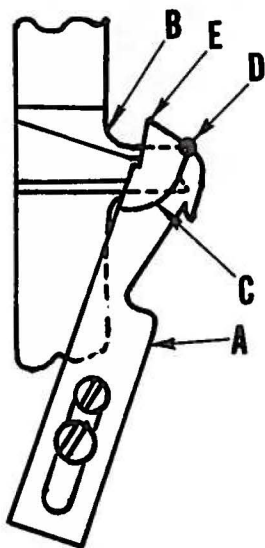
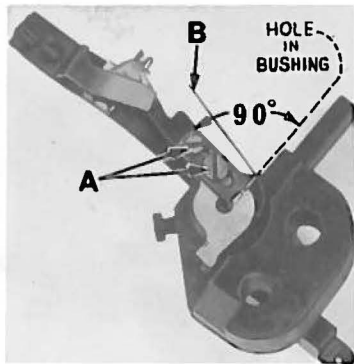
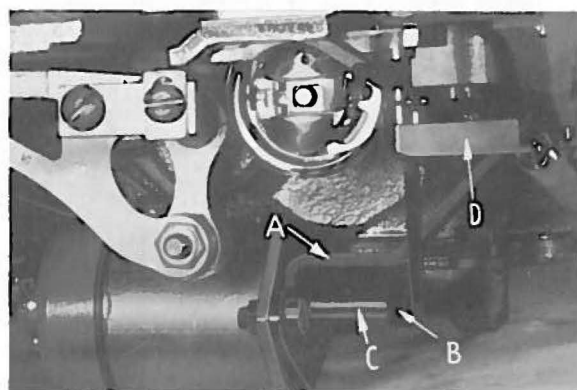
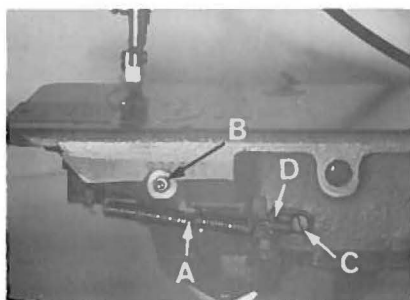

Fig. 30
Fig. 31
Fig. 32
Fig. 33
2. Position upper knife (D) parallel with the left side of the arm of the positioning finger. Check to see that the lower knife is parallel with the upper knife. If this is not so, loosen the finger set screw (E) and turn the eccentric bushing (F) until the knives are parallel. A good starting point would be to have the pinhole in the eccentric bushing (F) located approx. 90° to the right side of the arm of the positioning finger (Fig. 31).
The lower knife (A, Fig. 30) in its extreme left position should not extend beyond the left side of the arm of the positioning finger (B). As the lower knife moves to the right, the run out of the cutting edge (C) must coincide at a point of the positioning finger as indicated at point (D). To make these adjustments loosen screws (A, Fig. 31) and position knife.
4. Locate the cutting solenoid bracket (A, Fig. 32) as far forward as possible and parallel with the line of feed. With the cutting solenoid lever (B) contacting the cutting solenoid plunger (C), adjust the pivot release lever (D), so that there is a $1/32$ inch clearance to be maintained when knife return spring (A, Fig. 33) is in position.
5. Adjust the lower knife stop screw (B, Fig. 33) so when the lower knife is in its extreme right hand position, the left corner (E, Fig. 30) is in line with the left side of the needle slot in the bobbin case holder.
6. Be sure the spring retainer wire (B, Fig. 31) contacts the bobbin case holder when the lower knife is in its extreme right hand position. If the spring wire does not make contact, bend retainer wire to suit.
7. Knife return spring (A, Fig. 33) to have proper tension to cut threads. To adjust tension of knife return spring loosen screw (C) and move tension spring bracket (D) to the right to increase tension or to the left to decrease the tension.